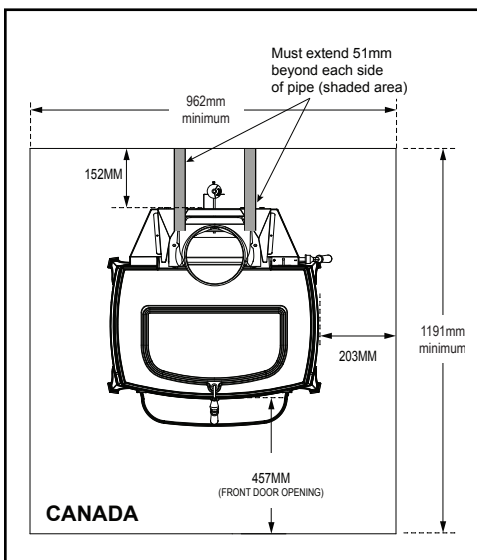

Figure 3.7
***EXCEPTION:** Non-combustible floor protections must extend beneath the flue pipe when installed with horizontal venting and extend 2" (51 mm) beyond each side. See Figure 3.7.